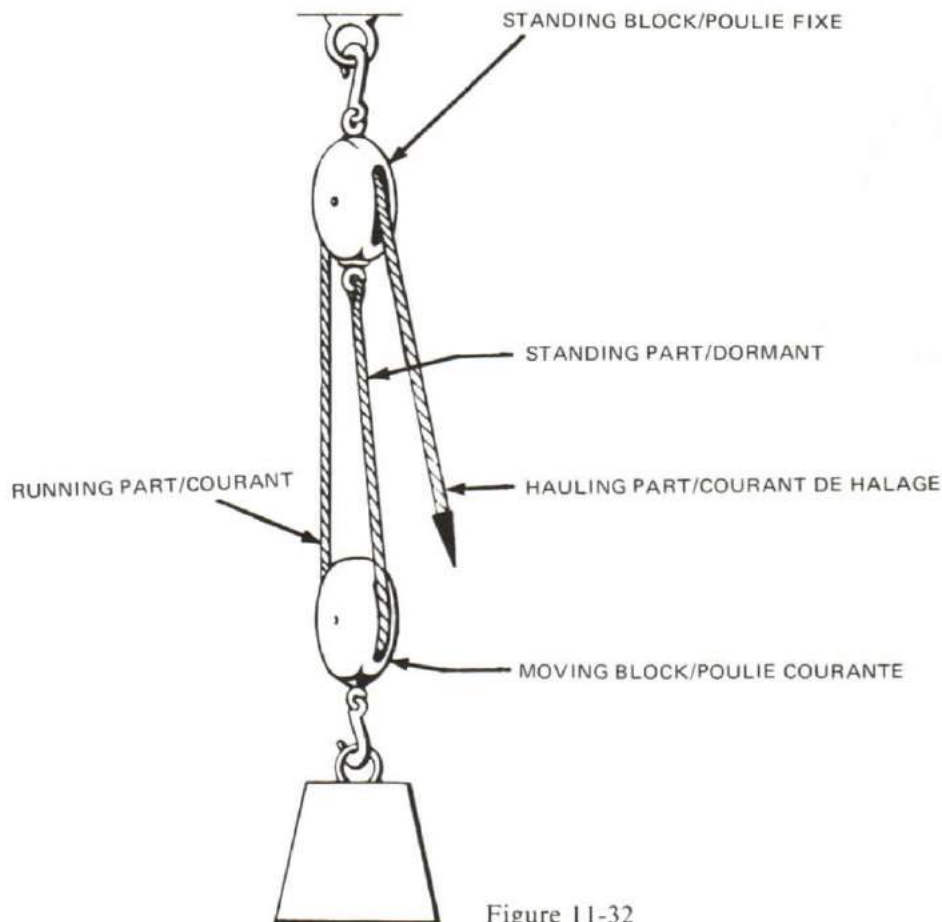
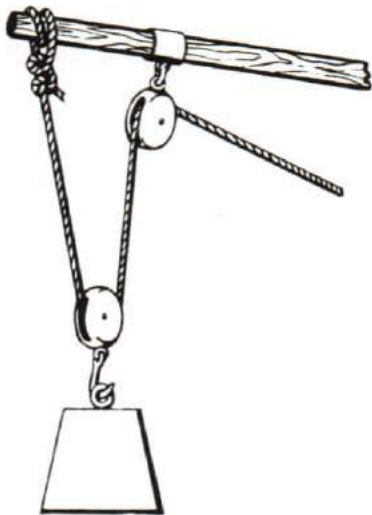

Figure 11-32
Figure 11-33
2. The names of the parts of a tackle are shown in Figure 11-32. They are self-explanatory. The standing part doesn't move. The running part pulls the running block along the standing part. The standing block merely changes the direction of the running part so that it is easy to haul. The standing part need not be secured to the standing block; it could be secured as in Figure 11-33.
2. La nomenclature d'un palan est indiquée à la figure 11-32 qui se passe de commentaires. Le dormant reste immobile. Le courant tire sur la poulie mobile le long du dormant. La poulie fixe renvoie simplement le courant pour faciliter le hissage. Le dormant n'a pas à être attaché à la poulie fixe, il peut être retenu comme l'indique la figure 11-33.